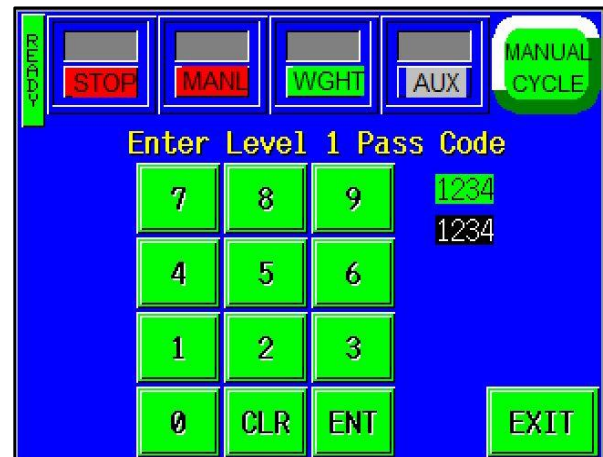

Figure 3-23
1. **Level 1:** This is the highest level pass code. It prevents operators from accessing the Technical Assistance functions of the machine. Additionally, the pass codes are maintained in this area. The default Level 1 pass code, when shipped from the factory, is 1001. To change this code, press the **Level1 PW** button on the Password Setup Screen, enter a new code on the numeric keypad, and press the **ENT** button. See Figure 3-23.